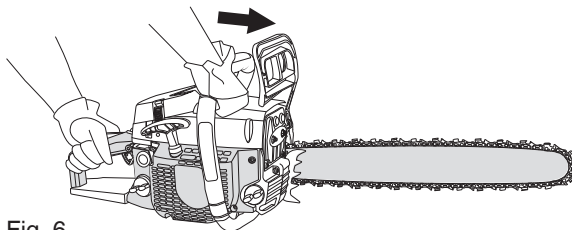

Fig. 6
4. While the unit is running, squeeze the throttle control trigger to 1/3 throttle and then engage the chain brake by pushing the chain break lever forward with the left hand(Fig.6).